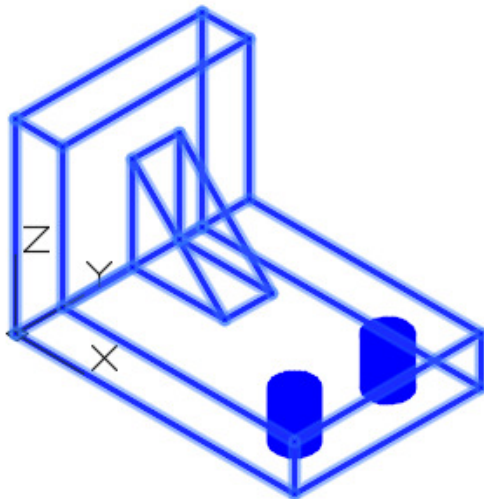

Figure Step 15A
Step 15 Enter the SUBTRACT command, as shown below, to subtract the two cylinders from the model to create the holes. (Figure Step 15A and 15B)
(Select the solid model. See Figure Step 15A)